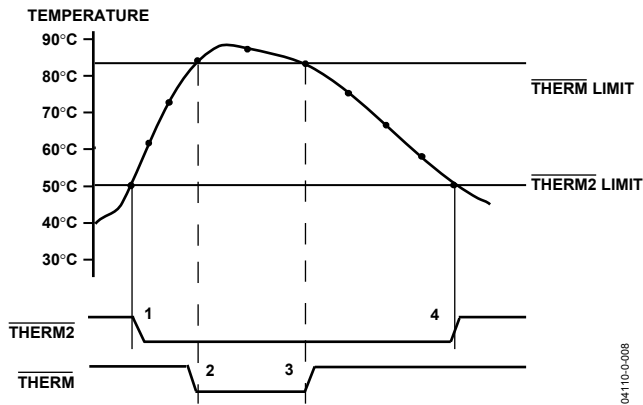

Figure 20. Operation of the  $\overline{\text{THERM}}$  and  $\overline{\text{THERM2}}$  Interrupts
Figure 20 shows how  $\overline{\text{THERM}}$  and  $\overline{\text{THERM2}}$  might operate together to implement two methods of cooling the system. In this example, the  $\overline{\text{THERM2}}$  limits are set lower than the  $\overline{\text{THERM}}$  limits. The  $\overline{\text{THERM2}}$  output could be used to turn on a fan. If the temperature continues to rise and exceeds the  $\overline{\text{THERM}}$  limits, the  $\overline{\text{THERM}}$  output could provide additional cooling by throttling the CPU.
3. The  $\overline{\text{THERM}}$  output deasserts (goes high) when the temperature falls to  $\overline{\text{THERM}}$  limit minus hysteresis. In Figure 20, there is no hysteresis value shown.